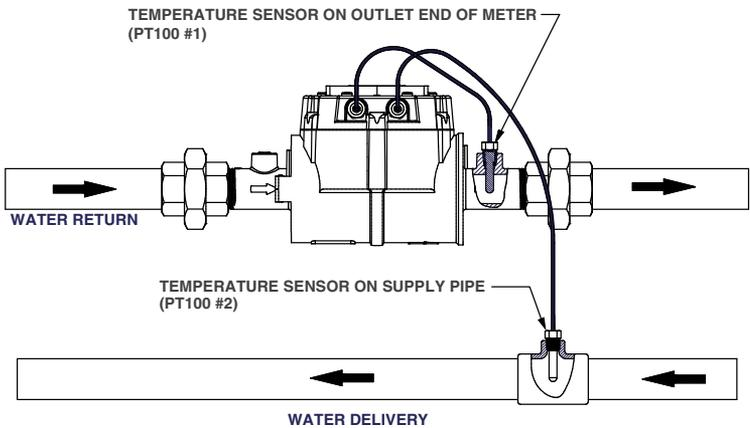

Figure 11
Each of the (2) temperature probes has a 10 ft. cable. The threaded body of the probe has 1/8" NPT threads to fit a standard 1/8" NPT port (see Figure 11).